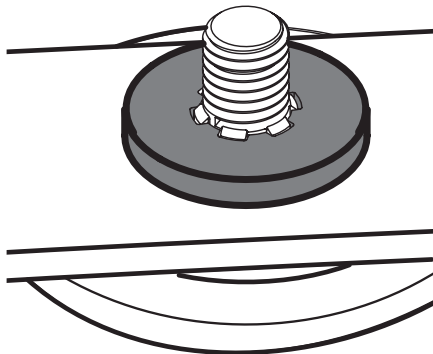

Figure 58
2. Carefully place the flat washer on the spindle shaft. Be sure that the splines at the base of the spindle shaft threads line up with the washer splines. See Figure 58.